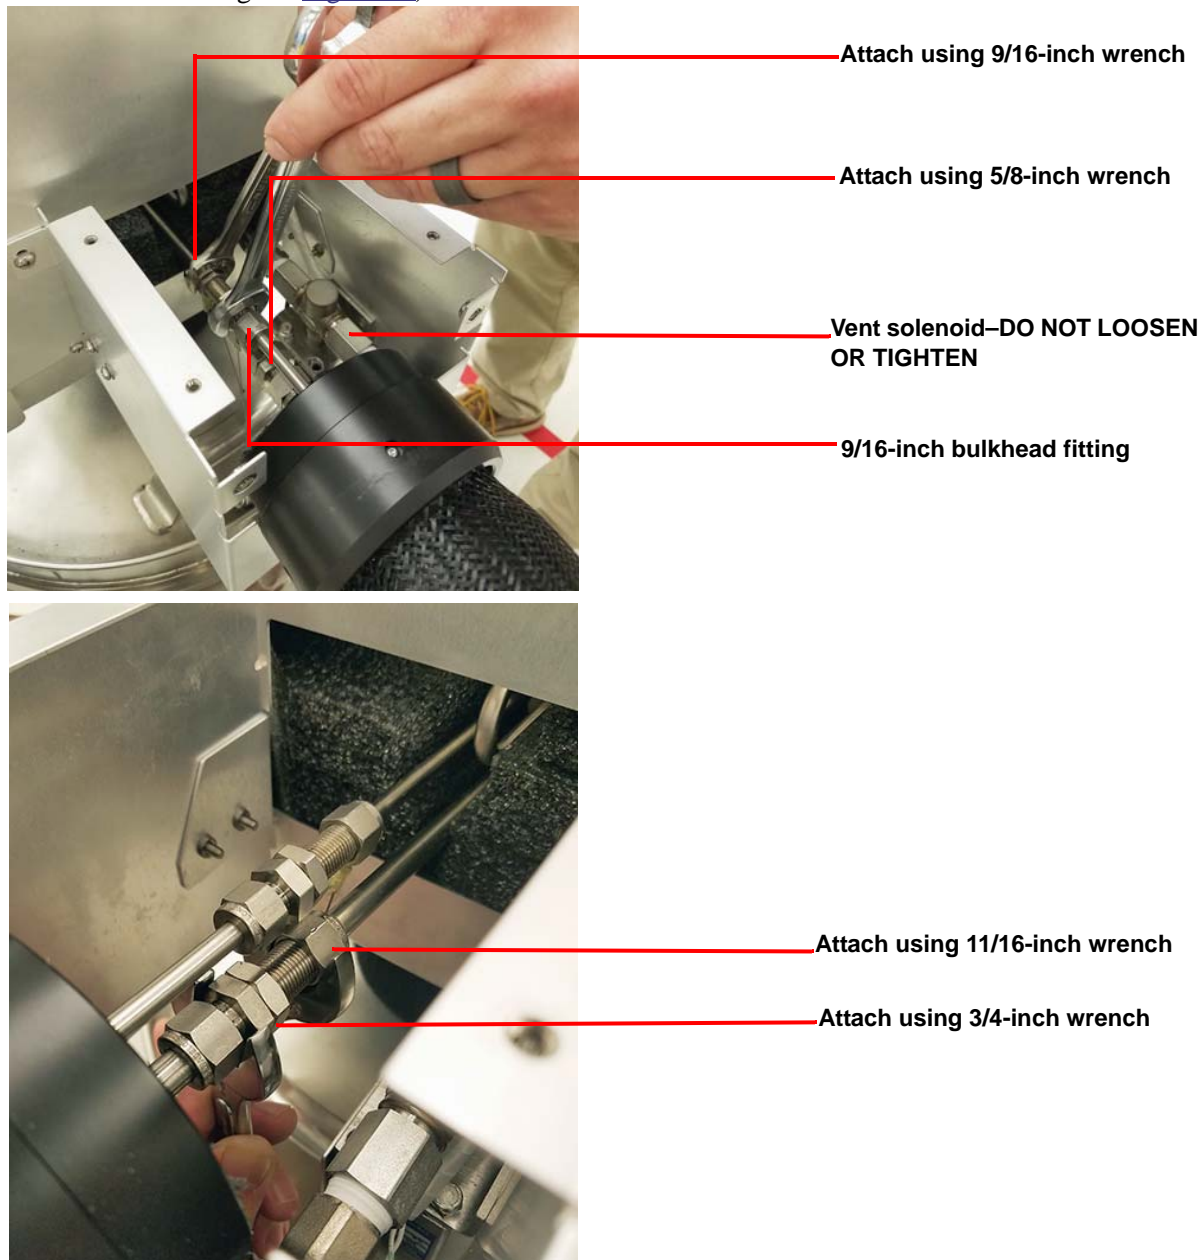

Figure 19 Top: Supply line attached to the transfer hose. Bottom: Return line attached to the transfer hose.
- c Using a 9/16-inch and a 5/8-inch wrench, attach the supply line connection on the transfer hose to the supply line connection on the LNP (see top image in Figure 19). Using an 11/16-inch and a 3/4-inch wrench, attach the return line on the transfer hose to the remaining fitting on the LNP (see bottom image in Figure 19).